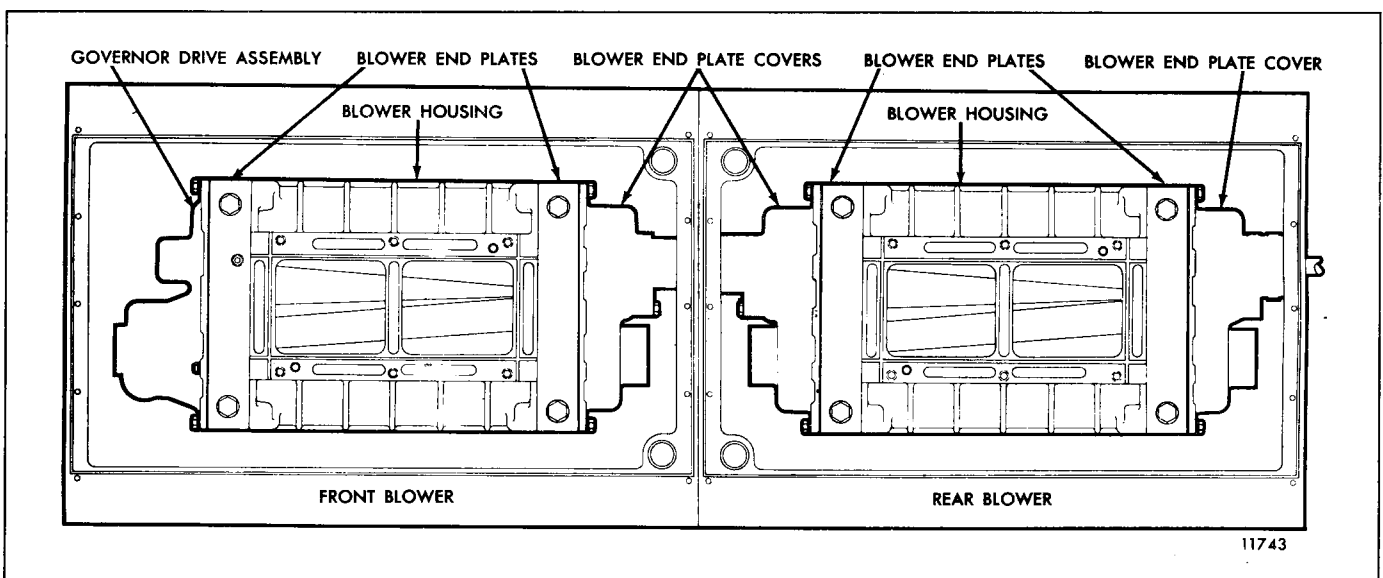

Fig. 1 - Tandem Blower Installation (12V-149)
- A single blower is used on 8V engines. Two blowers, coupled together (12V and 16V engines), are mounted in tandem in the air box (Fig. 1) of 12V and 16V engines. The basic parts for the 8V, 12V and 16V blowers are identical and interchangeable with the exception of the housing and rotors which differ in length.